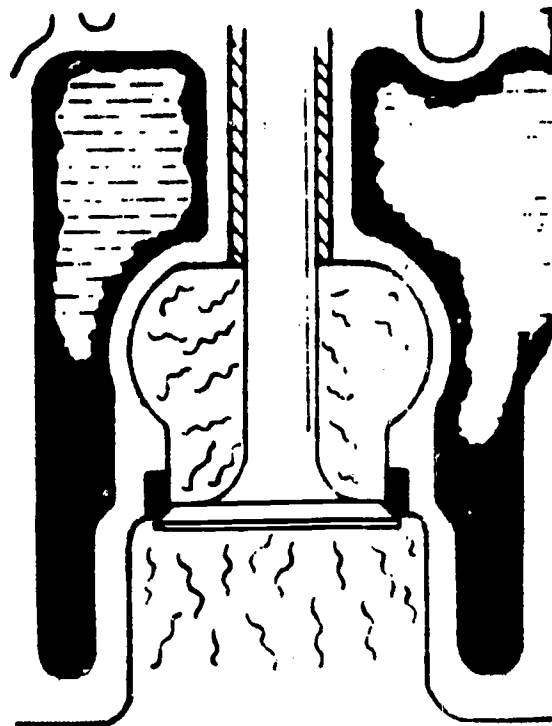

Fig. 10 Coolant deposits around hot spots in the engine.
**ENGINE DEPOSITS** - A continual process of physical and chemical changes in the cooling system results in accumulations that insulate engine heat from the coolant and restrict coolant flow. A light accumulation may reduce the heat transfer efficiency of the system enough to cause overheating in hot weather, at high altitudes or under heavy load. Another aspect of cooling system deposits is the tendency to build up faster in the hot areas, especially around the valve ports. This causes a local hot spot condition that is a hidden, but common, cause of overflow loss and burned valves. Figure 10 shows the build-up of deposits around the hot areas of the valves.